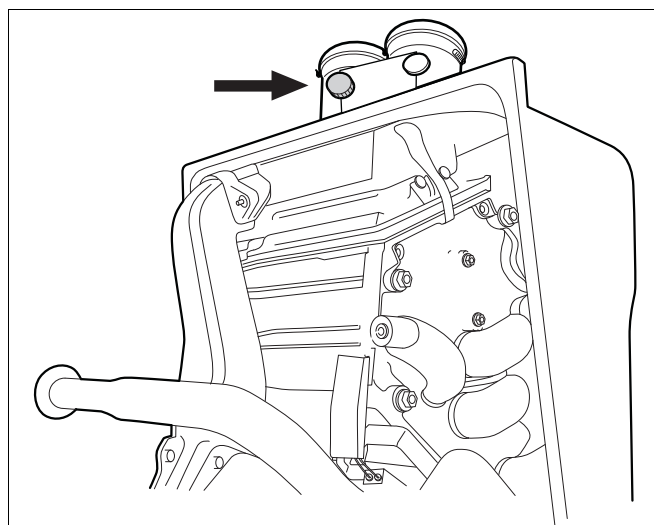

fig. 61 Flue gas sampling point
8.1.27 Measuring the carbon monoxide content (CO)
- Measure the carbon monoxide content on the flue gas sampling point (see fig. 61).